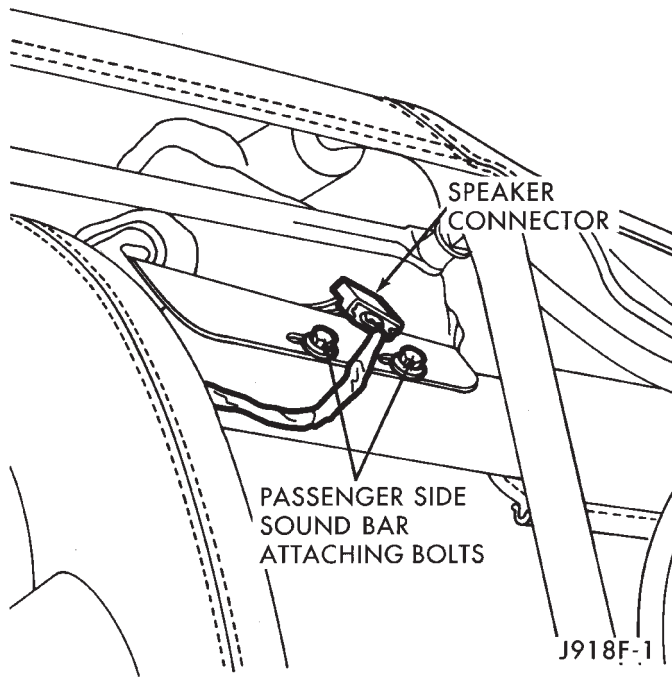
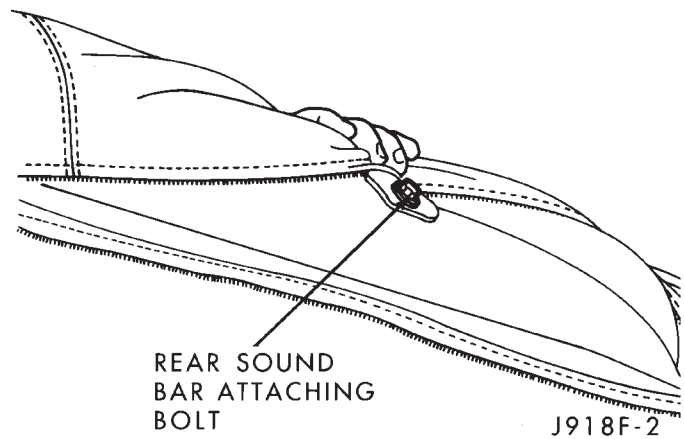

Fig. 19 Sound Bar Speaker Connector - YJ
Fig. 20 Sound Bar Attaching Bolt - YJ
(1) Pull sound bar padding away from bar on the passenger side (Fig. 19).
(2) Disconnect speaker harness connector located on the passenger side at the sound bar.
- (1) Disconnect speaker harness connector located on the passenger side at the sound bar (Fig. 19)
- (2) Remove bolts attaching the sound bar side flanges to the right and left side bars.
- (3) Open zipper on sport bar cover.
- (4) Remove bolts attaching the sound bar brackets to the sport bar (located on the rear of the sport bar) (Fig. 20). Slip brackets through the sport bar cover.
- (5) Reverse removal procedures to install.